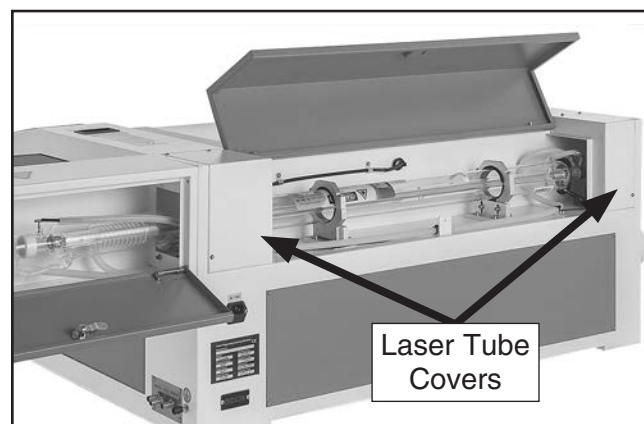

Figure 84. Location of laser tube covers.
3. Loosen and remove (3) cap screws from both laser tube covers on each side of main tube cabinet (see **Figure 84**).